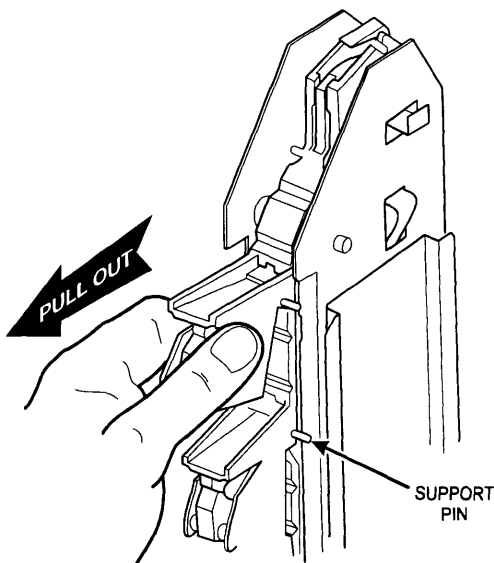

Figure 7
6. Hold the rack module and slide assembly with the delivery end up as shown (figure 7).